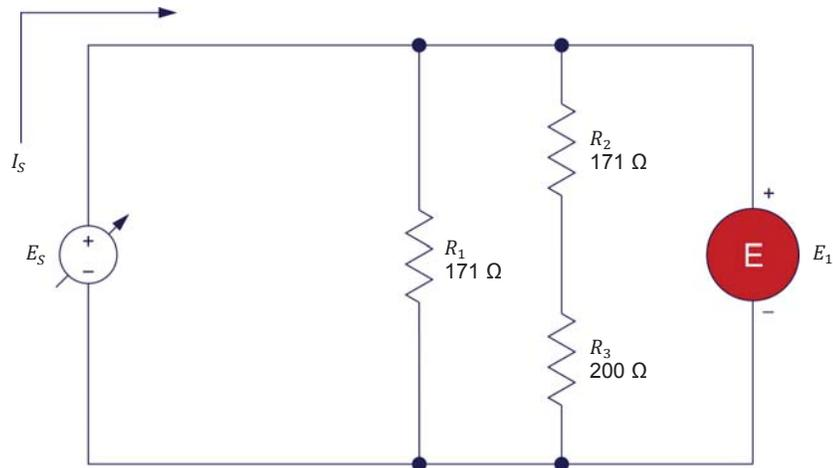

Figure 22. Determining the equivalent resistance of resistors connected in series-parallel (case 2).
18. Set up the series-parallel circuit shown in Figure 22. To obtain the resistor arrangement of Figure 22, make the necessary connections and switch settings on the Resistive Load module.
19. Calculate the equivalent resistance  $R_{Eq}$  of series-parallel resistors  $R_1$ ,  $R_2$ , and  $R_3$  in Figure 22.